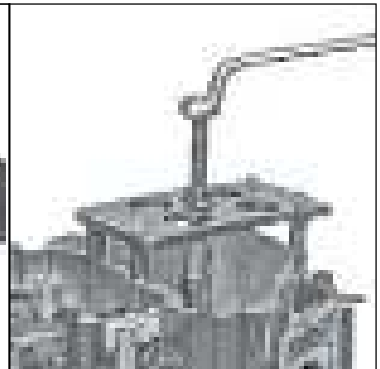

Fig. 1.9B
- Used to separate the LH and RH side crankcases. (Fig. 1.9B)